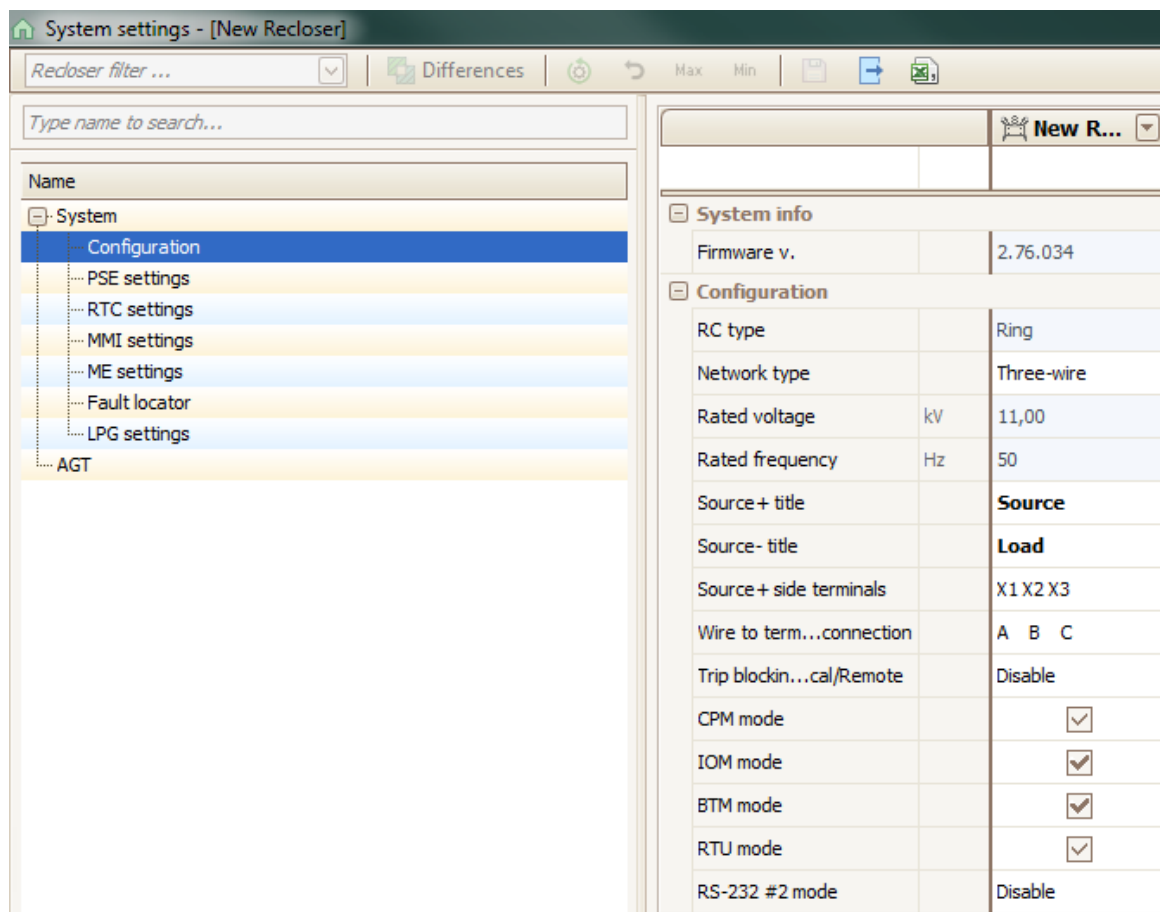

Figure 64
- 3) "System settings" window will popup where it is possible to edit system settings (Figure 64).